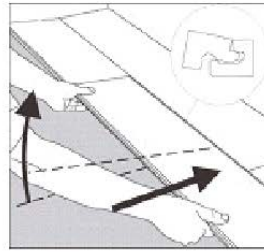

Figure 3
1. Begin the second row with the cut piece from the first row. **(Figure 3)** If the cut piece is shorter than 35cm/350mm, do not use it. Instead, begin with a new board that is at least 35cm/350mm in length and allows 35cm/350mm between the end joints on the adjacent planks.
5. Install the remaining boards and rows in the same manner. **(Figures 3 & 4)**